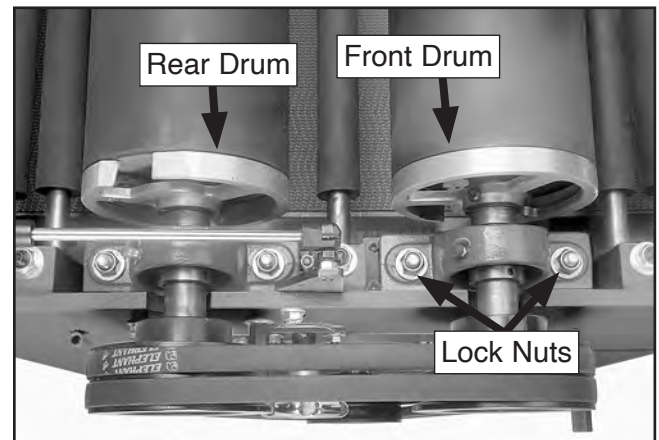

Figure 63. Location of front drum bearing lock nuts.
10. Loosen front drum pillow bearing lock nuts (see **Figure 63**).